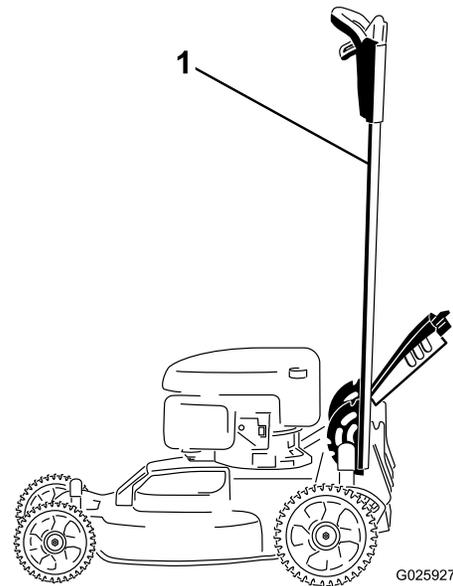

Figure 37
1. Lock the handle in the vertical position (Figure 37); refer to Adjusting the Handle Height (page 13).